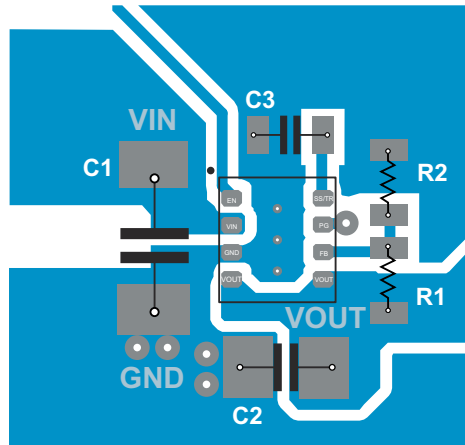

图 8-25. TPS82130 PCB 布局
- Refer to 图 8-25 for an example of component placement, routing, and thermal design.